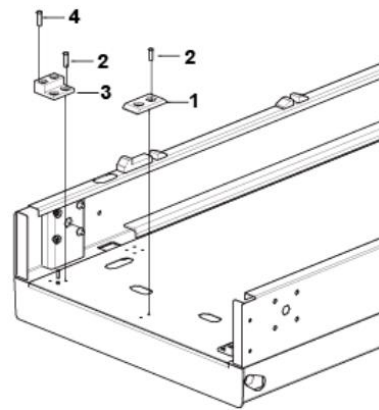

Fig. 3.3 Installation of main platform slider
2. As shown in Fig. 3.3, place the sliders 1 and 3 on the main platform base plate, keep the sliders 1 & 3 and the main platform base plate hole concentric, and fasten them vertically with the blind rivets 2 and 4.